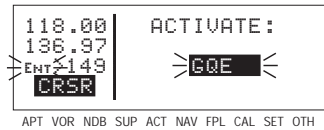

Figure 4-102
2. Press **[D→]** a second time. The annunciation **DIRECT TO** changes to **ACTIVATE** (figure 4-102). Repeated presses of **[D→]** cause the annunciation to alternate between **DIRECT TO** and **ACTIVATE**. Make sure **ACTIVATE** is displayed.